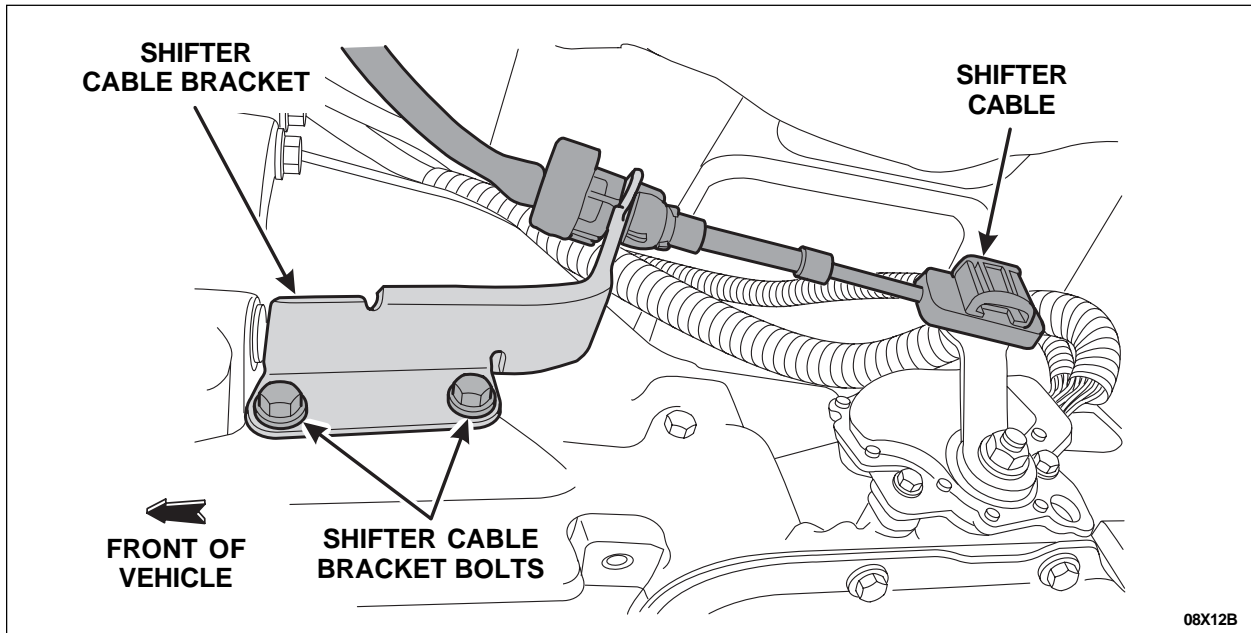

FIGURE 2
3. Remove the 2 shifter cable bracket bolts and disconnect the shifter cable and position the bracket aside. See Figure 2.
8. Position and install the 2 shifter cable bolts and attach the cable. Torque the bolts to 25 Nm. See Figure 2.